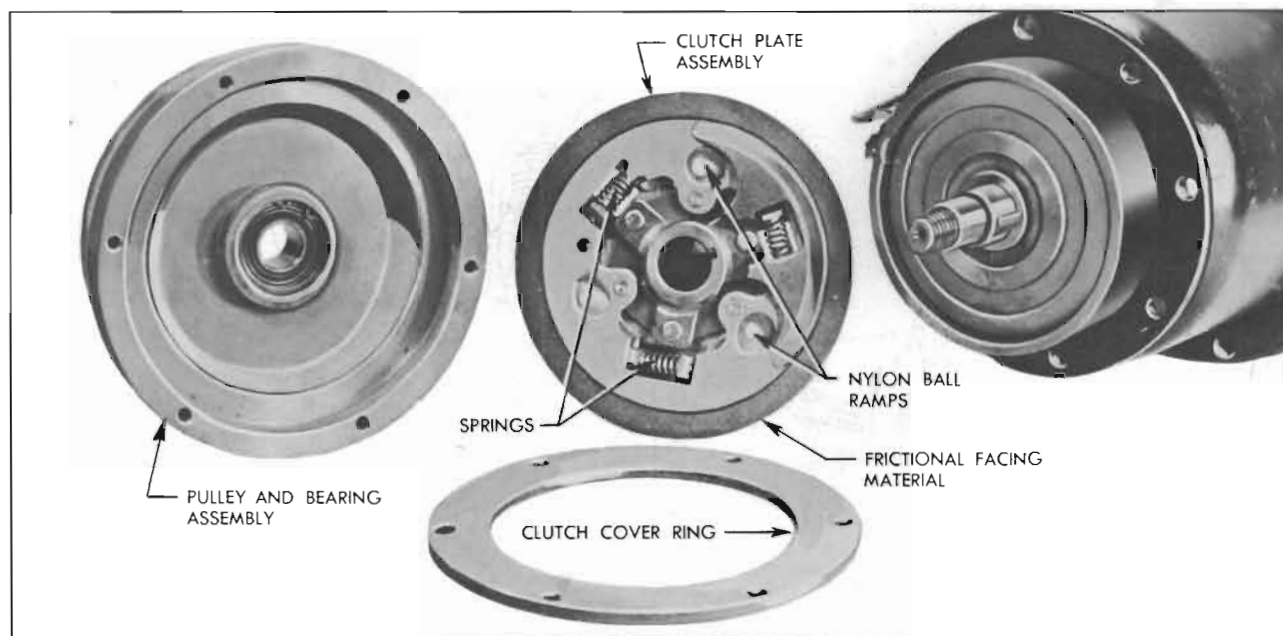

Figure 11-44—Compressor Clutch and Disc Assembly
3. Remove protective caps and firmly shut off both valves on rear of compressor by turning valve stem clockwise. See figure 11-44.